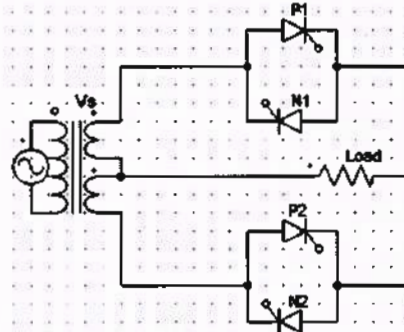

Figure 4. Cycloconverter circuit for question 11
11. In a cycloconverter circuit as shown in figure 4, _____ and _____ conduct in one cycle conduct together